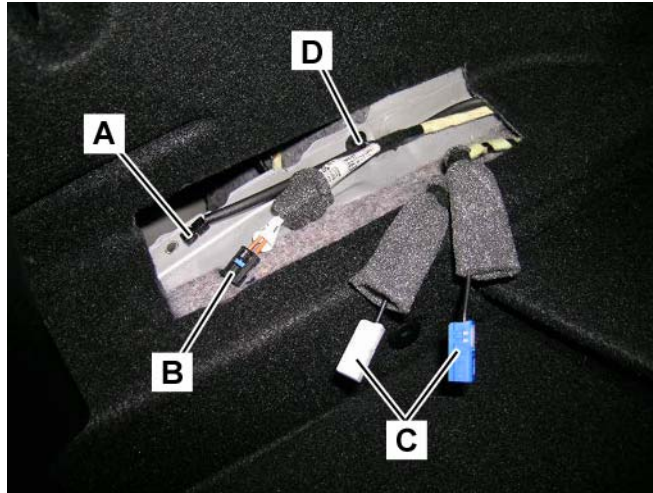

Figure 8
- Power supply (A, Figure 8)
- SDARS MOST connector (B, Figure 8)
- Antenna connectors (C, Figure 8)
3. Carefully cut the wire tie securing the preinstalled harness (D, Figure 8) and remove the wire tie anchor from the hole (D, Figure 8).